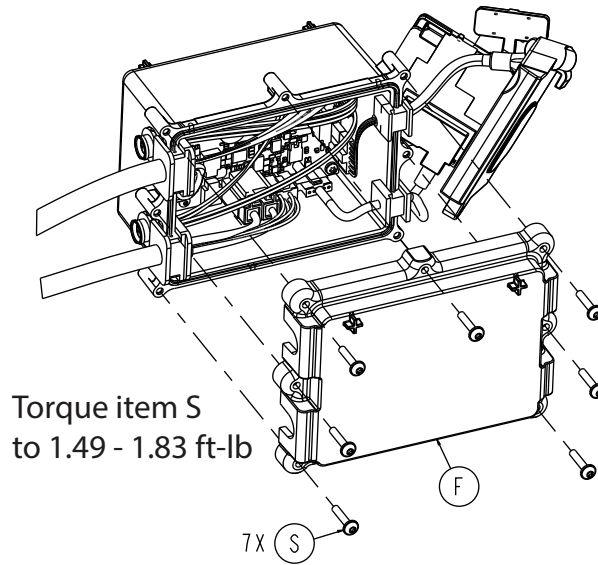

Figure 83 – Remove the HBC top cover screws
27. Using a T20 Torx driver, remove the seven round washer head tapping screws (S) that secure the top cover (F) to the HBC enclosure assembly (Figure 83). Remove and save the top cover. Save the screws.